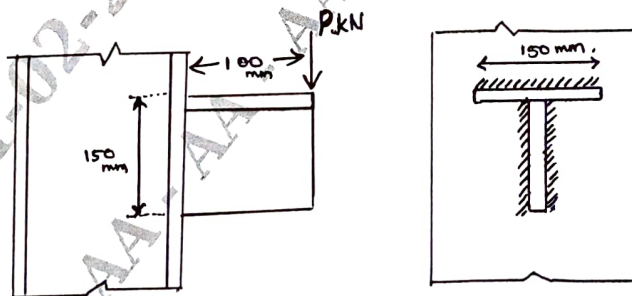

Fig.Q3(b)
- A T-section of size 150×150×10 mm is welded to a column as shown in Fig.Q3(b). Determine the bracket load it can carry. Take size of weld of as 8 mm.